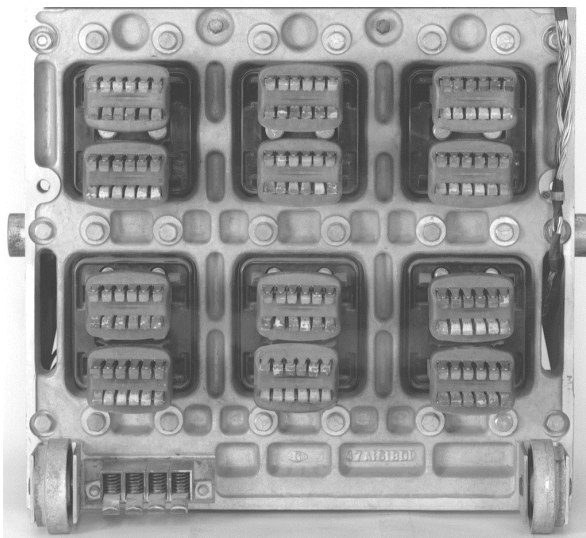

Figure 3. Preparing the load terminals.
1. On draw-out type breakers, remove and save the load-side draw-out finger assemblies, as shown in Figure 3.
2. Remove and discard the two bolts above and the two bolts below each load terminal, as shown in Figure 3.